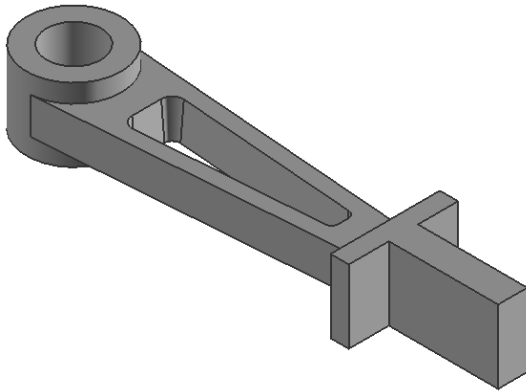

Figure 8-68 Model after creating the pad feature
- g. Create the rectangular pad using the **Pad** tool, refer to Figure 8-68.
9. Choose the **OK** button twice and then the **Cancel** button once. The rectangular pad feature is shown in Figure 8-68.